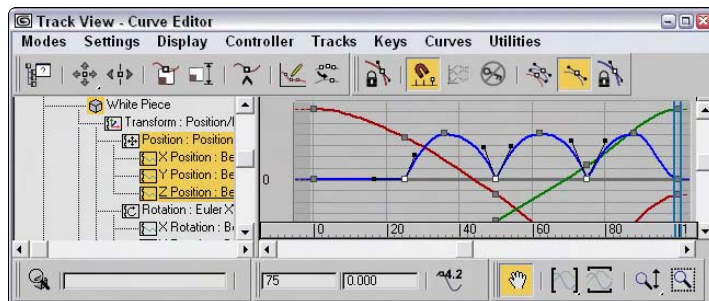

Figure 33-27: The In and Out tangents corrected for the new keys.
7. Hold the Shift key down, and move the handles on the keys to make them discontinuous tangent types, as shown in Figure 33-27.